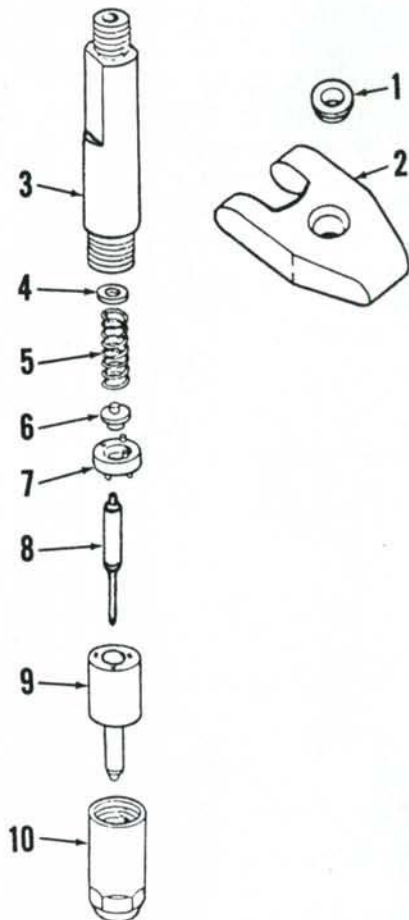

Fig. 60—Exploded view of Robert Bosch fuel injector nozzle assembly used on all models.
66. OVERHAUL. To disassemble the injector, clamp flats of nozzle body (3—Fig. 60) in a vise with nozzle tip pointing upward. Remove nozzle holder nut (10). Remove nozzle tip (9) with valve (8) and spacer (7). Invert nozzle body (3) and remove spring seat (6), spring (5) and shim (4).